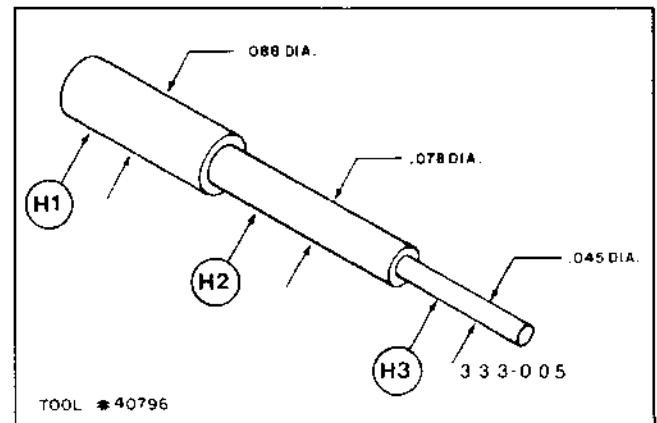

Figure 3-29. Hammer Adjustment Tool
- (2) Adjustment Check (the Platen-to-Printwheel adjustment, 3.4.1.4.2, must be correct before checking hammer adjustments).
To check hammer coil position, first rotate the printwheel to place one of the larger characters (M, W, E, etc.) in front of the hammer. Then insert H2 of tool no. 40796 (see Figure 3-29) between the armature (A) and the anvil of the print hammer (C), and push the armature against the hammer coils (F). This will force the hammer (C) in to nestle the selected printwheel petal (D) lightly against the platen (E). Gently rock the printwheel slightly back and forth, and verify that the petal can move with a very slight drag. Repeat this check, rotating the platen and/or moving the carriage each time, to check the entire printing surface.